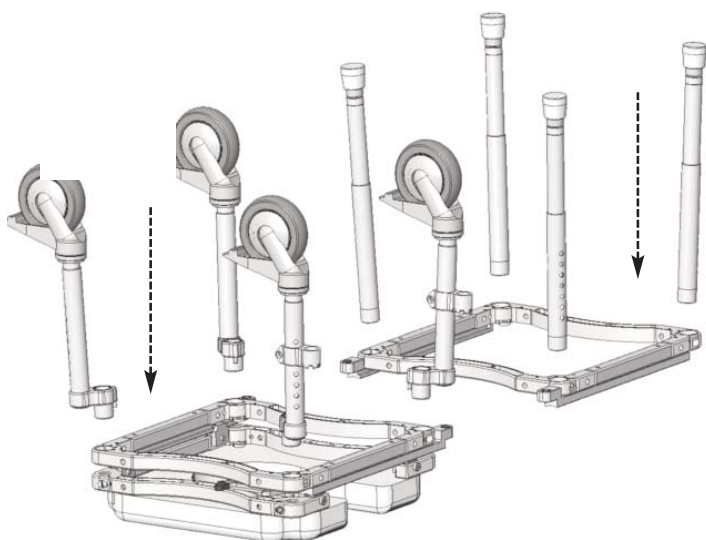

Figure 2
**C** Position the frames upside down and install the legs (Refer to Figure 2): The roll-in frame has caster legs and the tub section has stationary legs.